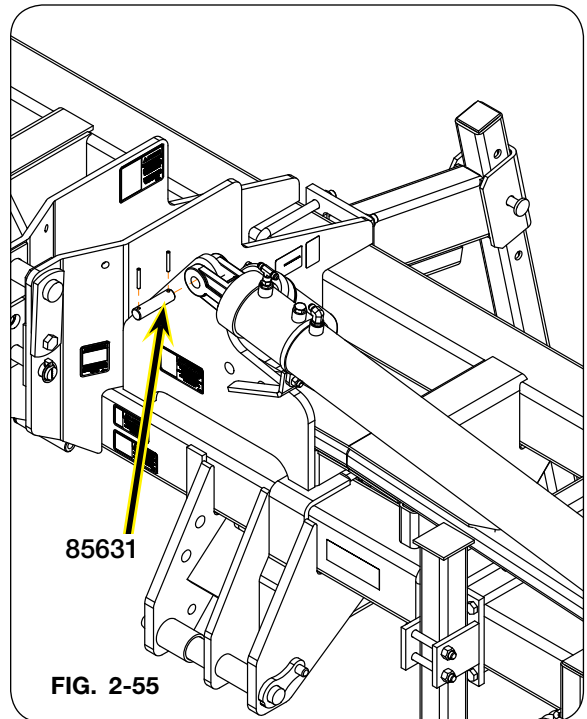

FIG. 2-55
6. Attach the cylinders to the main frame with 1" Dia. x 4" pins (85631) and 1/4" Dia. x 1 7/8" spiral pins (91144-165) as shown in FIG. 2-55.